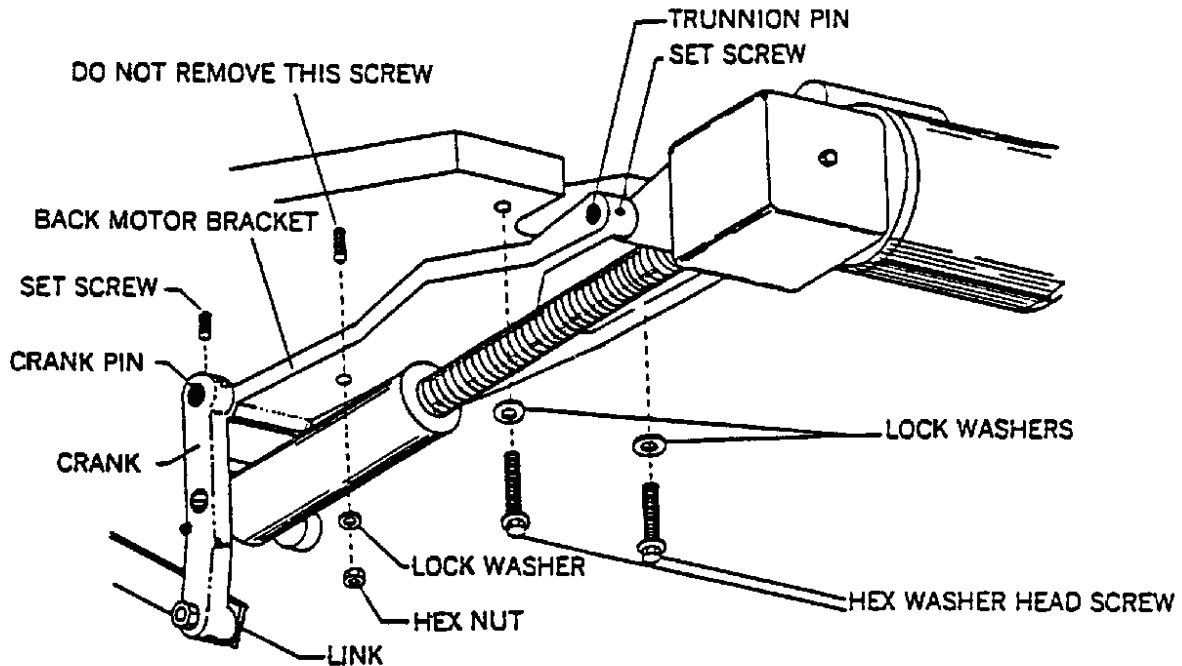

Figure 3-8. Back motor bracket installation.
- NOTE:** If you are replacing the back motor bracket, continue with steps j. through m. If you are not replacing the back motor bracket, go to step n. to replace the back motor. Refer to figure 3-8.